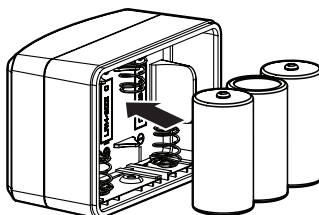

FIG. 2
2. Install 3 x Alkaline "C" 1.5V batteries (not included) into the battery compartment. Make sure the polarity (+ & -) of the batteries is correct as shown in the battery compartment. FIG. 2